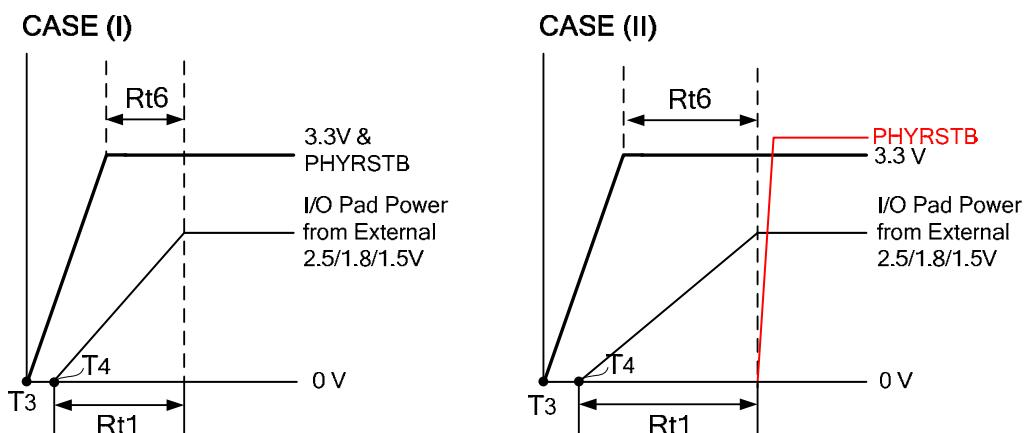

Figure 11. Power Sequence (I/O Pad Power Sourced Externally)
Note 5: When using an external power source for the I/O pad, the power should rise simultaneously or slightly later than 3.3V power; i.e. $T_4 \geq T_3$ in Figure 11.
Ready time of the external power should be within 5ms after 3.3V is ready. See CASE(I) in Figure 11, page 52.
PHYRSTB should be kept low until the external power is ready. See CASE(II) in Figure 11, page 52.